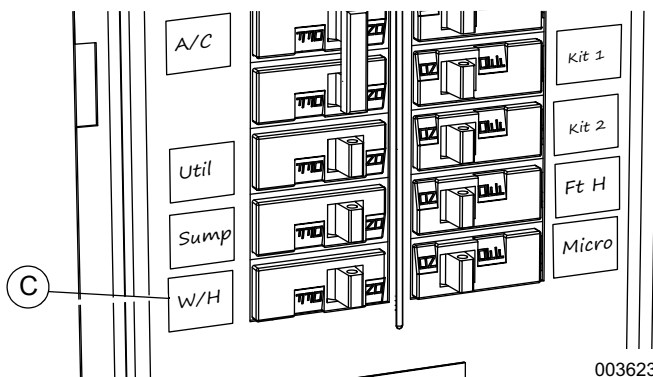

Figure 3-4. Label Breakers
- See **Figure 3-4**. Apply provided circuit directory labels (C) and mark each circuit accordingly with a pen.